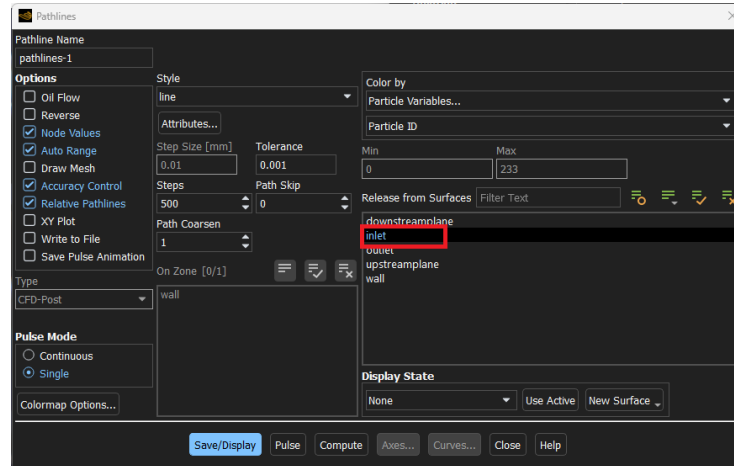
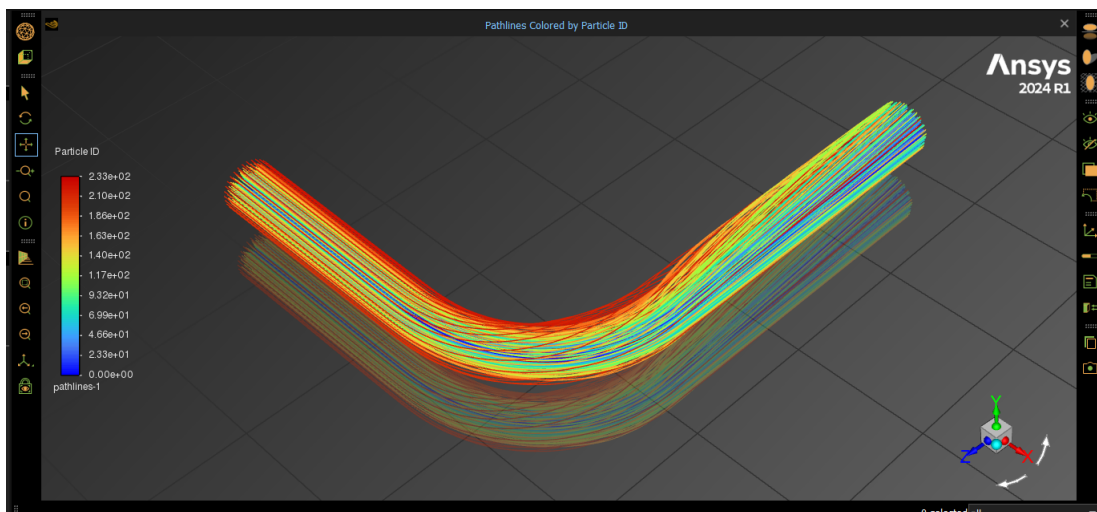

Figure 61: Fluent Pathlines options.
Figure 62: Visualization of secondary motions.
- In order to visualize the secondary motions, in the *Outline View*, *Results* group, select *Graphics*, *Pathlines* and *New...*. In the corresponding Pathlines window that will open up, select, as in figure 61, *inlet* in the *Release from Surfaces* list, and keep all other options as their default. Click *Save/Display* and the result will be as in figure 62.